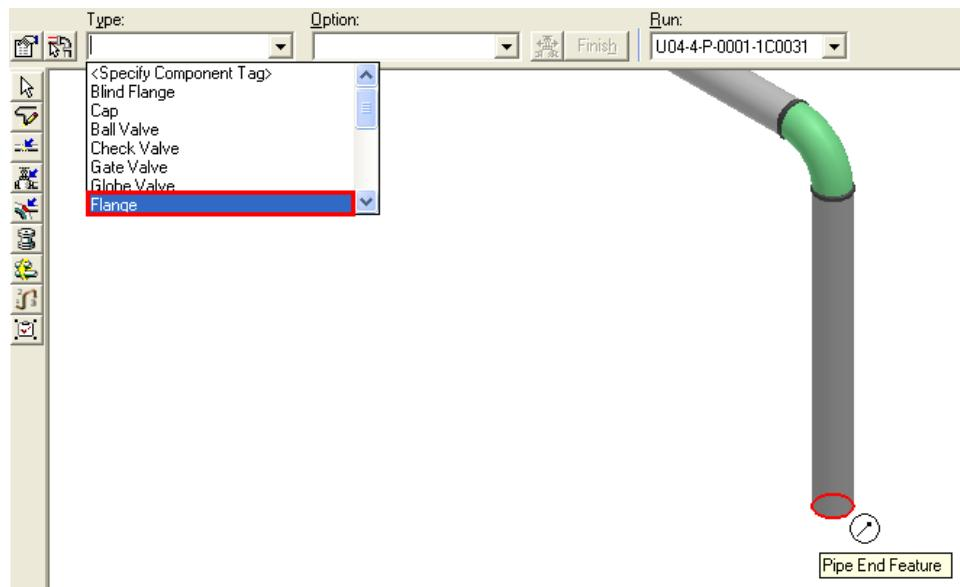

Figure 62: Type Drop-down List on the Insert Component Ribbon
3. The **Insert Component** ribbon appears. The **Type** drop-down list on the **Insert Component** ribbon displays a list of components that you can choose to place in the pipeline **400-P**. Select **Flange** option in the **Type** drop-down list, as shown in Figure 62.